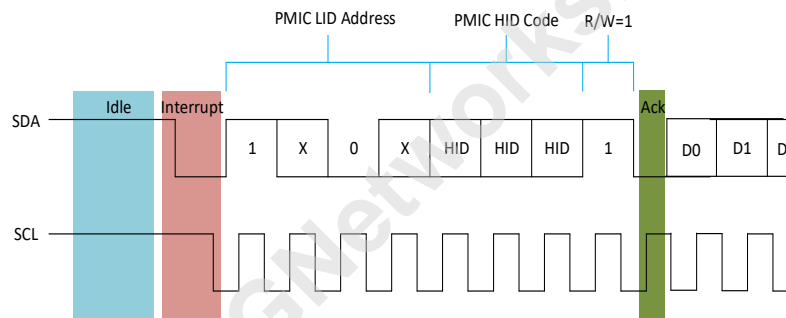

Figure 40 — PMIC Request Interrupt; Host Ack Followed by PMIC IBI Payload
- The Host sends ACK on 9th bit to accept the interrupt request. At this point, if the PMIC confirms that it has won the arbitration, the PMIC transmits the IBI payload as shown in Table 47 and Table 48 for PEC disabled and PEC enabled configuration respectively. See Figure 40. Figure 40 just shows only first two data bits of the first payload byte (MDB Byte) to illustrate the timing. The interrupt payload contains MDB followed by PMIC error register contents Table 96, “Register 0x08” to Table 99, “Register 0x0B” and Table 139, “Register 0x33” in order. The host then issues the STOP command. Note the timing waveform in Figure 40. The host then accepts the IBI payload if it sends an ACK on 9th bit to accept the interrupt request. The host can interrupt the IBI payload at T bit. If host stops the IBI payload at T bit in the middle of payload, the PMIC Hub device retains the IBI Status flag Table 98, “Register 0x0A” [1] and Pending Interrupt Bits [3:0] internally and waits for the next opportunity to request an interrupt. If the PMIC device successfully transmits the entire IBI payload, it then clears the IBI Status flag Table 98, “Register 0x0A” [1] = ‘0’ and Pending Interrupt Bits [3:0] = ‘0000’ on its own and does not request for an IBI again unless there is an another different event occurs; for another same event, the device does not request for an IBI.